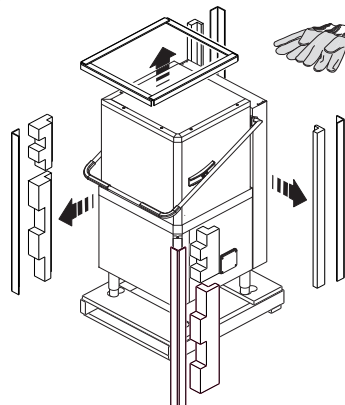

Figure 5 Unpacking
- Wear protective gloves and unpack the machine (Figure 5).